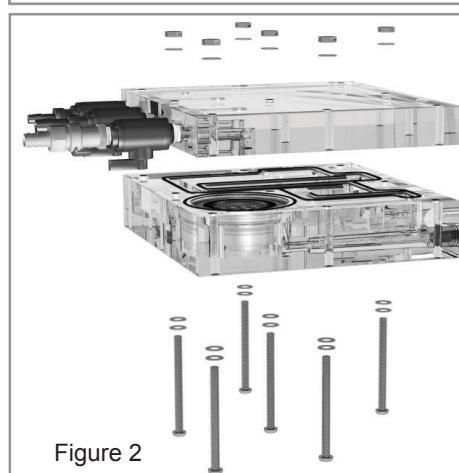

Figure 2
- Step 7.** Remove the remaining hardware from the flow cell. (Figure 2).